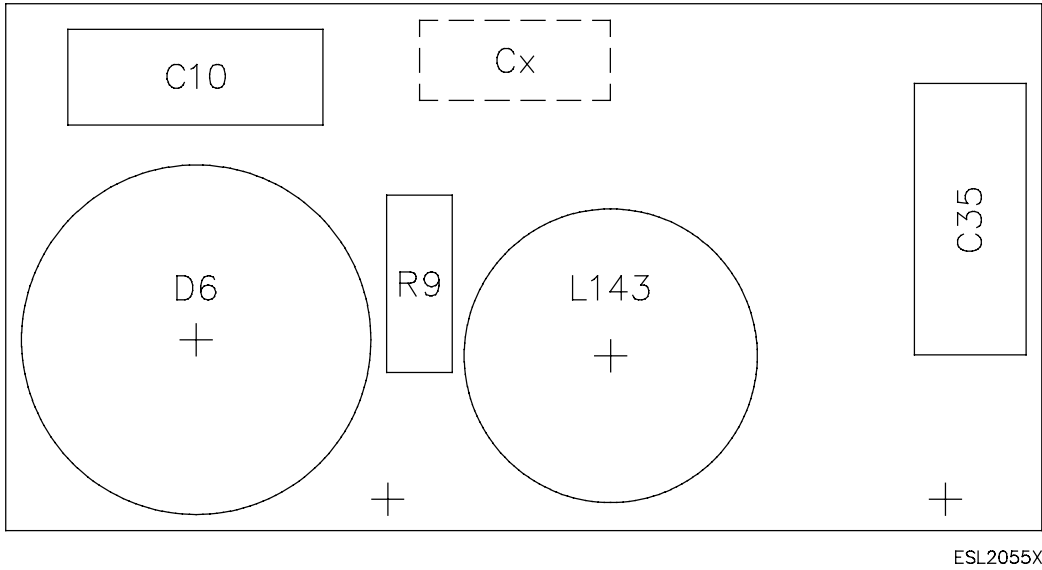

Fig. 4.11 Component side of the PCB in the YWX111-11/-21, (derived from HESG 437 807)
Location of resistor R9: see Fig. 4.11.
- Fig. 4.11 Component side of the PCB in the YWX111-11/-21